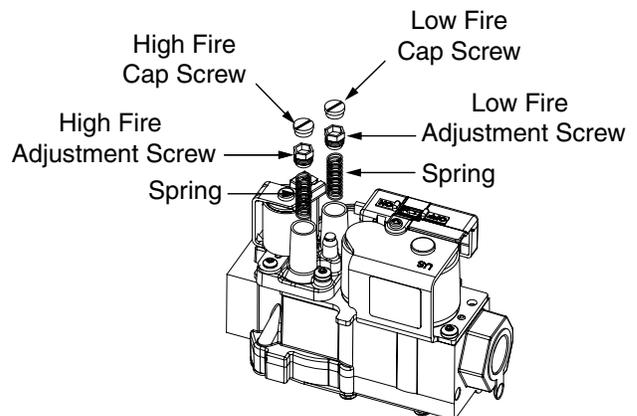

Figure 22. Pressure Regulator Spring & Adjustment Screw Removal
1. Remove the HIGH fire cap screw. See Figure 22.